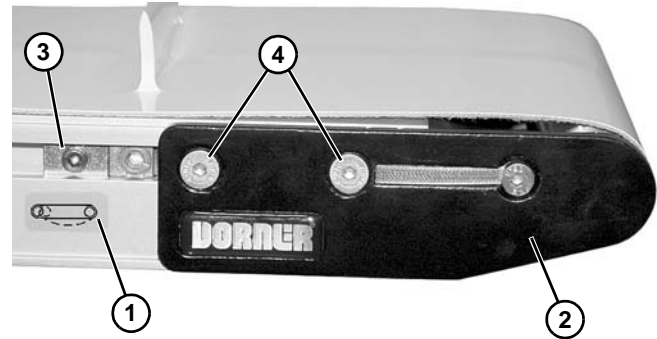

Figure 49
- On tension end of the conveyor, identified with  a label (**Figure 49, item 1**), push in head plate assembly (**Figure 49, item 2**):
- On both sides of conveyor, loosen and move cam tracking assemblies (**Figure 49, item 3**) (if equipped) away from head plates.
- Loosen fastening screws (**Figure 49, item 4**) and push head plate assembly inward.